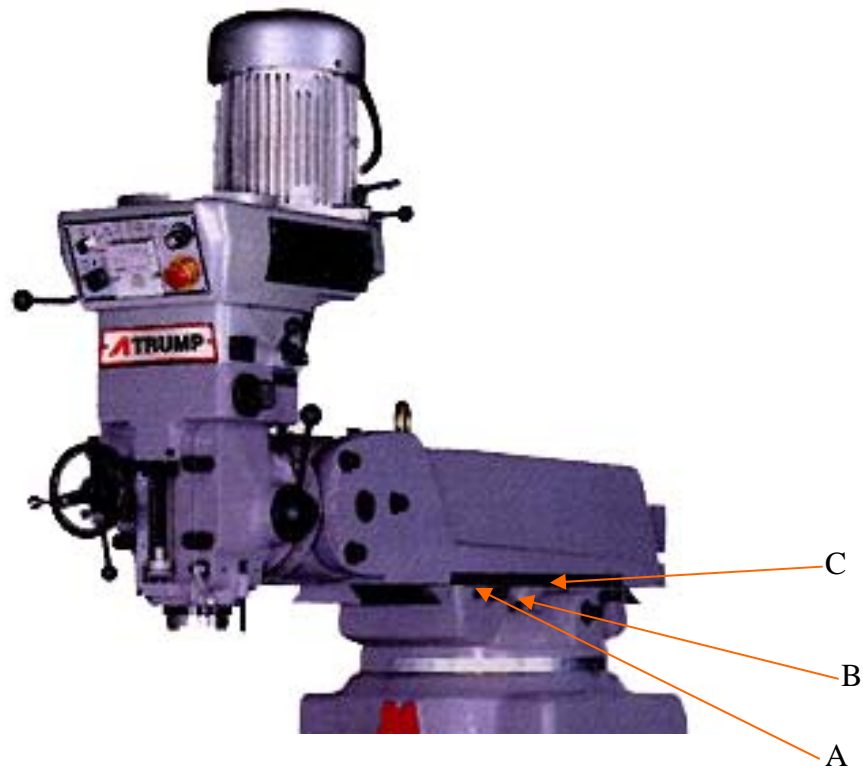

Fig6-6
6.2.1 Ram movement and swiveling (see Fig6-6):